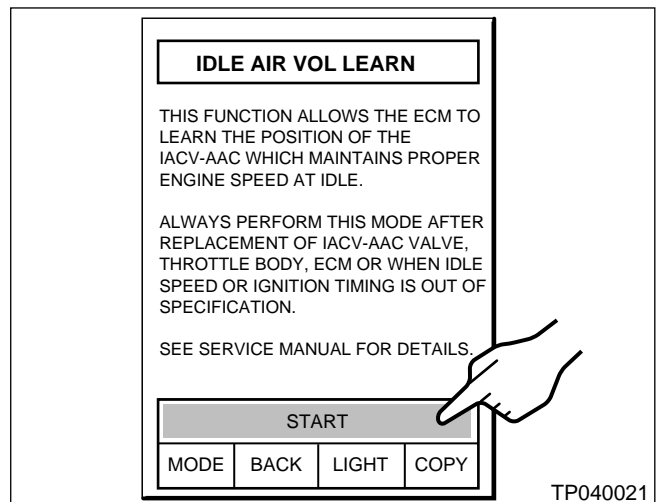

Figure 4
- d. Press **START** on the "IDLE AIR VOL LEARN" screen. See Figure 4.